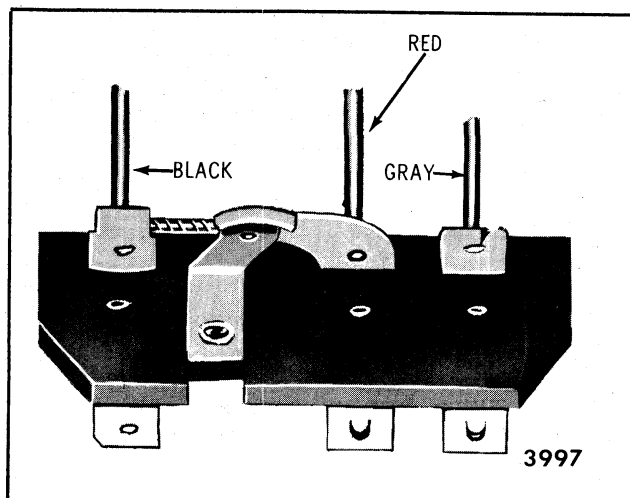

Fig. 2-15-Parking Switch and Terminal Board
1. If park switch and terminal board assembly were removed, reinstall replacement assembly using the attaching screws and nuts included in the service package. Resolder leads to terminals (Fig. 2-15).